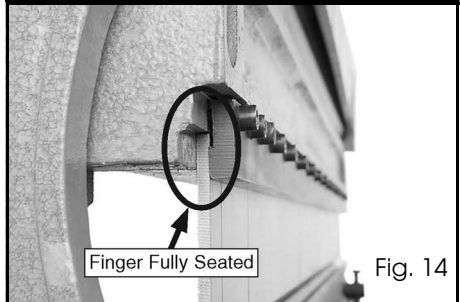

Fig. 14
- Make sure the fingers are slightly loose between the gib and the casting, then use the hand crank to raise the receiver to fully seat the fingers up against the casting behind the gib, as shown in Figure 14.